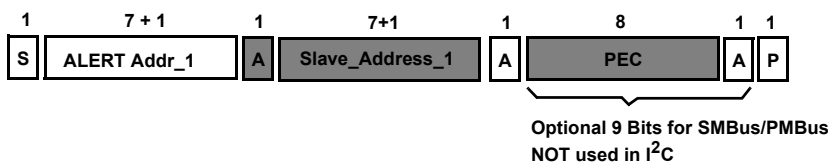

FIGURE 39. SMBus/PMBus/I²C Protocol
The ISL6381 features SMBus, PMBus, and I²C with programmable address via hard-wired registers as in Figure 28, while SMBus/PMBus includes Packet Error Check (PEC) to ensure data properly transmitted. In addition, the output voltage, droop slope, enable, operating phase number, overvoltage setpoint, and the priority of SVID and SMBus/PMBus/I²C can be written and read via this bus, as summarized in Table 20. Input, output, fault, and temperature telemetries can be read as summarized in Table 21. For proper operation, users should follow the SMBus, PMBus, and I²C protocol, as shown Figure 39. Note that STOP (P) bit is NOT allowed before the repeated START condition when “reading” contents of register, as shown in Figure 39 (#3).